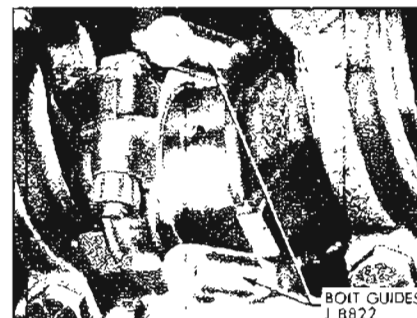

Figure 2-33—Connecting Rod Bolt Guides Installed
4. Remove cap and bearing shell from number 1 connecting rod. Install connecting rod bolt guides on the bolts to hold the upper half of the bearing shell in place. See Figure 2-33.